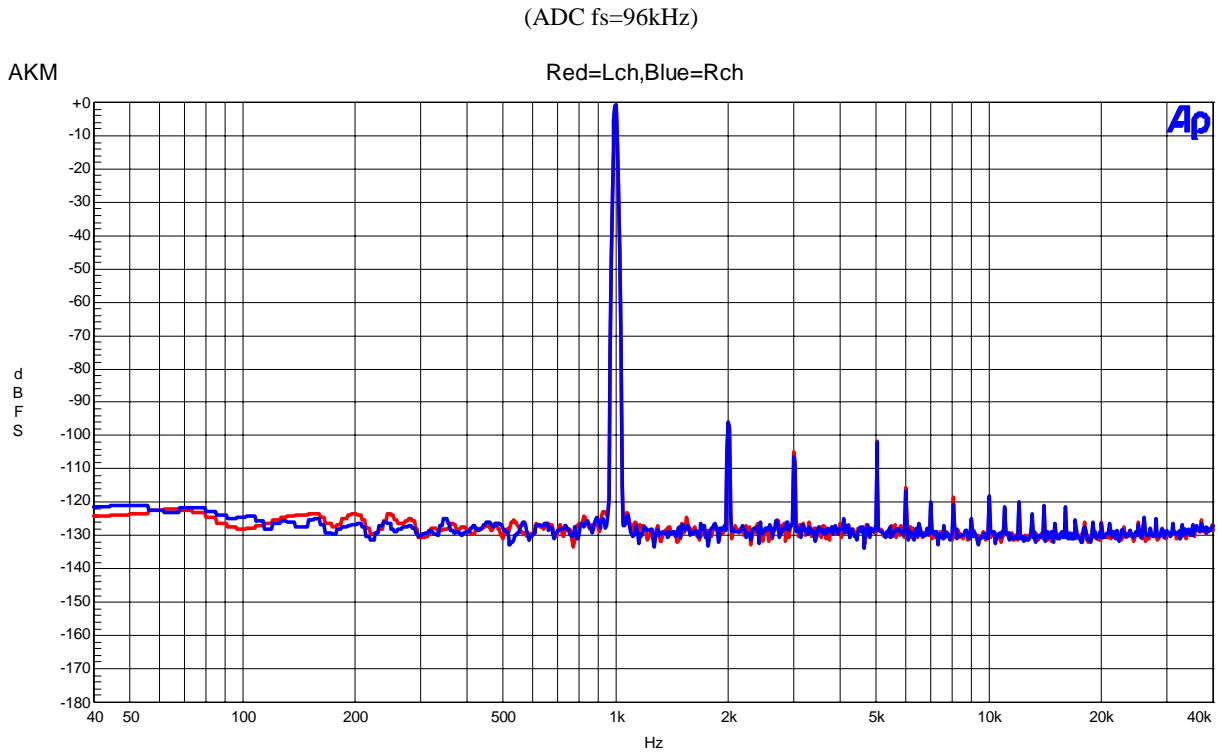

Figure 16. FFT(Input Frequency=1kHz,Input Level=-0.5dBFS)
- Figure 16. FFT (Input Frequency =1kHz, Input Level =-60dBFS)